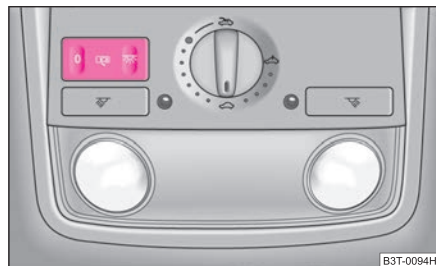
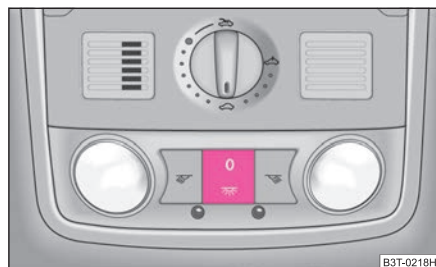

Fig. 48 Detail of the headliner: front interior lighting
Fig. 49 Detail of the headliner: front interior lighting
- Press the switch at the point of the symbol ☀ ⇒ fig. 48 or ⇒ fig. 49.